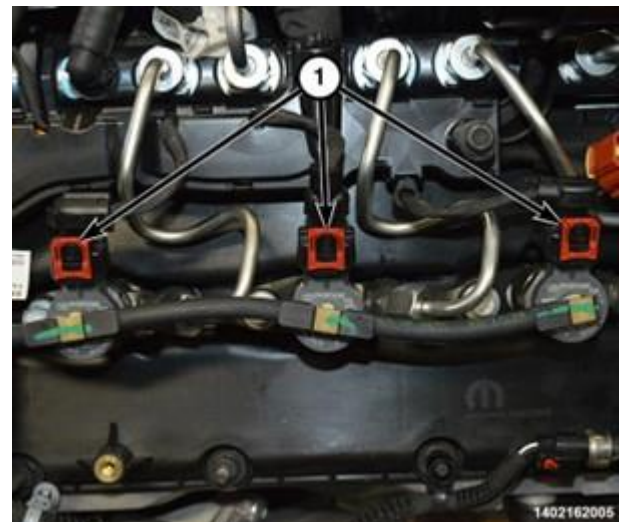

Figure 126 – Fuel Injector Wire Harness Connectors
- 63. Disconnect the fuel injector wire harness connectors (1) (Figure 126).